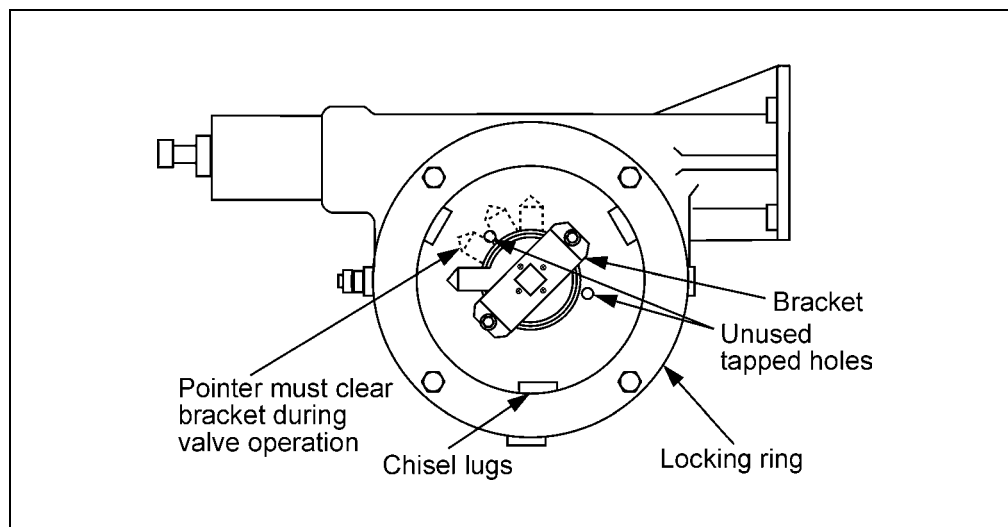

Figure 4 — Bracket Oriented to Clear Pointer During Valve Operation
- b. See Figure 4. Check the orientation of the bracket so it does not interfere with the pointer during valve operation. If the bracket will be hit by the pointer during valve operation, loosen the four hex head screws on the outer cover ring. Then using a hammer and chisel, rap on one of the three raised rectangular bosses to turn the cover to a position such that the pointer will not hit the bracket. When the cover is positioned properly, tighten the four hex head screws to lock the cover in place.